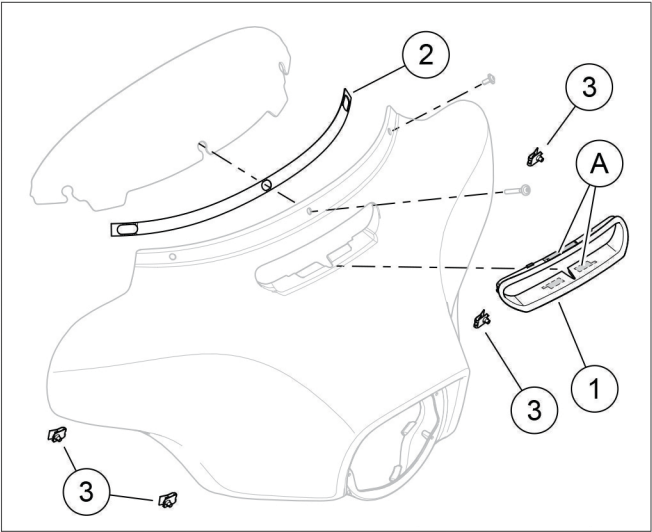

Figure 1. Service Parts, Front Fairing Assembly Kit
See Figure 1 and Table 1.
1. See Figure 1. Test-fit the bezel (1) to the fairing before installation. Do not remove the protective tape from the three tape strips (A) until ready to apply the bezel.